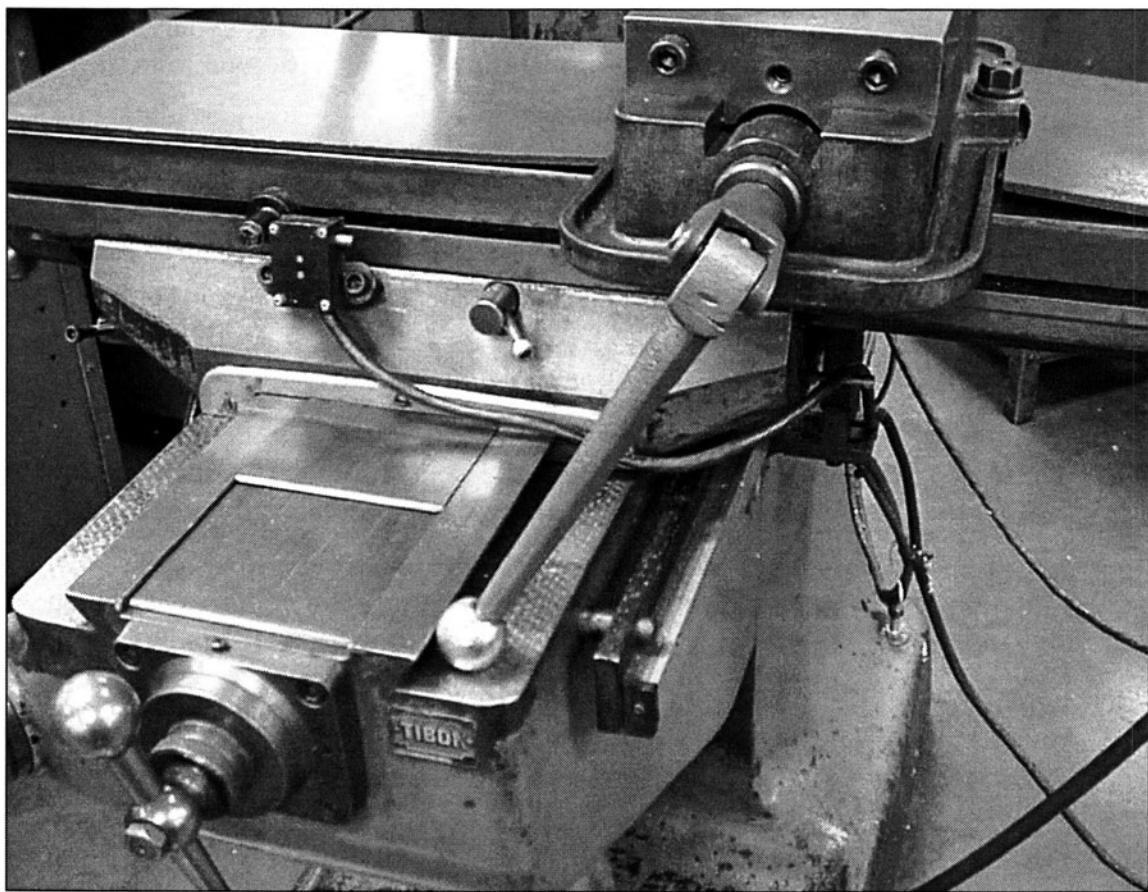

FIGURE 2-3 The swivel vise handle is shown jammed into the ways of the mill...a condition that must be avoided.
20. Avoid jamming a vise handle into the ways of the mill. (See Fig. 2-3)